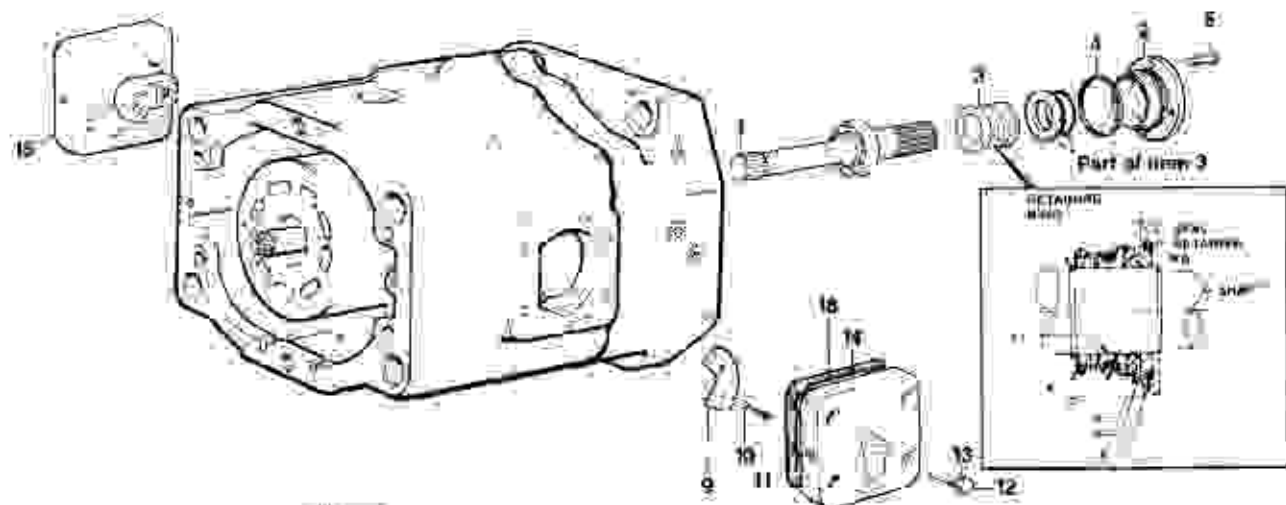

FIGURE 7
See figure 7.
PARTS LIST FOR FIGURE 7
See figure 7. Place the two spacers (10) on the screws (11) and install through the grease paste (9).